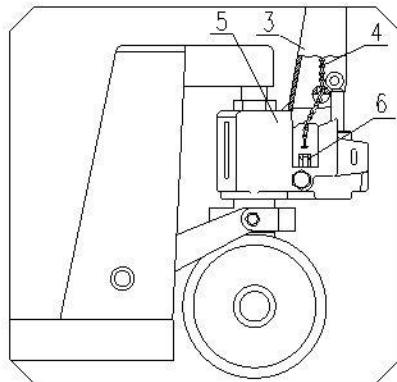
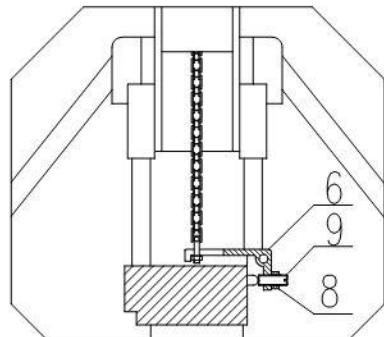

Fig. 2
Fig. 4
- 3.4 See fig. 2. Put the chain (4) of the hand grip through the middle hole of the pin roll (1).
- 3.5 Take the screw nut which is at the end of the chain (4) and hitch it to the groove of the lever board (6). See fig. 2 and fig. 4.
4.2 The screw (9) in fig. 4 is used to adjust the truck operation. If the truck body drops immediately after it is lifted, you should turn the screw (9) a little counter-clockwise and then try to operate the truck again until the truck body will lift normally. If the truck body cannot be lowered after it is lifted, you should turn the screw (9) a little clockwise and then try to operate the truck again until the truck body can drop normally. The external hexagon nut (8) at the screw (9) plays the locking function in the truck. So you should loosen the external hexagon nut (8) before adjustment and tighten the nut (8) after finishing the adjustment.